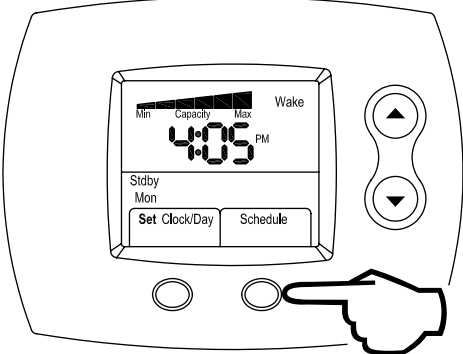

Figure 118
Step 1: From the Home screen, press the **RIGHT** (Schedule) button, as shown in Figure 118.